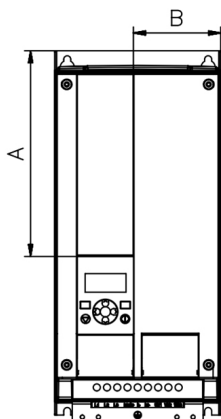

Figure 3.11: Vacon20 dimensions, MI4 - 5 Display Location
- Disconnect the RFI-filters from ground by lifting the jumpers up from their default positions. See Figure 3.11